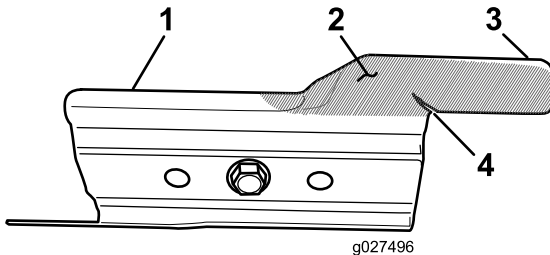

Figure 28
Carefully examine the accelerator for excessive wear (Figure 28). Because sand and abrasive material can wear away the metal (especially in the area shown as item 2 in Figure 28), check the accelerator before using the machine. If you notice that a tab on the accelerator has been worn down to a sharp edge or there is a crack, replace the accelerator; refer to Removing the Blade (page 21).